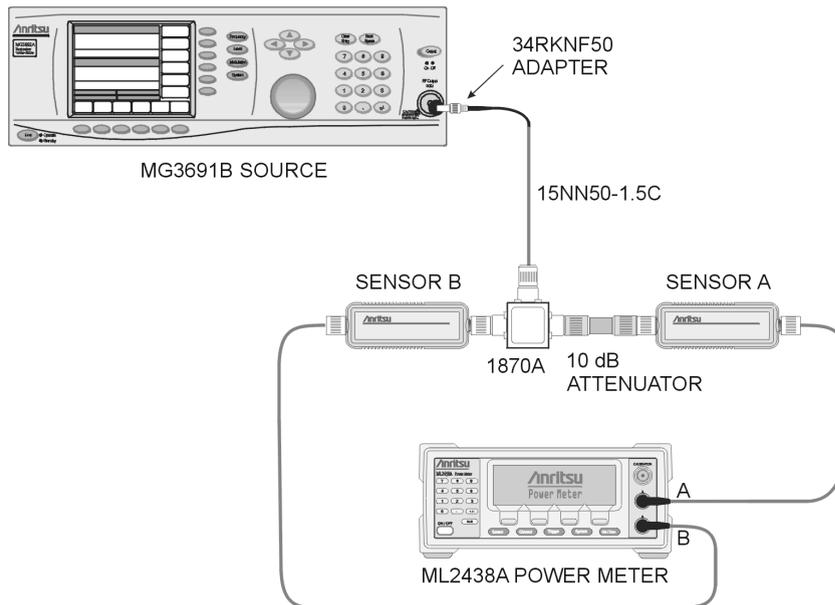

Figure 2-4. Power Meter Verification Pre-test Setup
5. Install the 10 dB Fixed Attenuator to the other power splitter output and then connect sensor A to the end of the Attenuator (Refer to Figure 2-4).